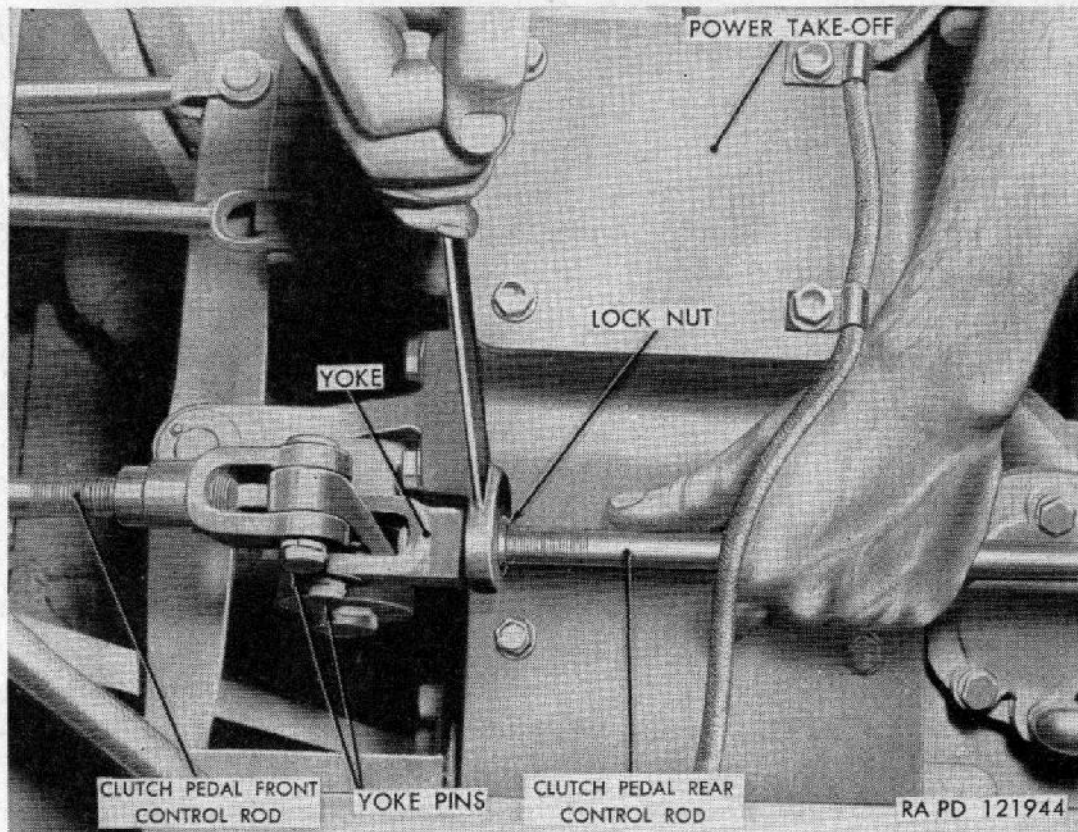

Figure 99. Adjusting clutch pedal linkage.
a. General. The master clutch pedal must have 1½- to 2-inches free travel at all times to ensure clearance between the release bearing and release levers in the cover assembly of each clutch and to ensure complete engagement and disengagement of the clutches. The adjustment for this free travel is made by shortening or lengthening the clutch pedal linkage rods (fig. 99) between the pedal and the shaft to which the clutch release shifter shafts are connected. Adjustable yoke ends are provided for this purpose.
b. Adjustment. Open crew rear compartment door and remove the yoke pin from the rear end of the linkage rod connected to clutch pedal (fig. 99). Loosen locking nut and turn yoke onto rod to decrease the free travel of the pedal, or back off of rod to increase the free travel (fig. 99). Connect rod and check distance of free travel. When adjustment is correct, tighten lock nut against yoke, and install cotter pin in yoke pin (fig. 99). After adjusting linkage rod for correct pedal free travel, hold pedal down to where a slight pressure is felt and disengagement of clutch begins; then have a second man check to see if either of the two links connected to the throw-out levers on the